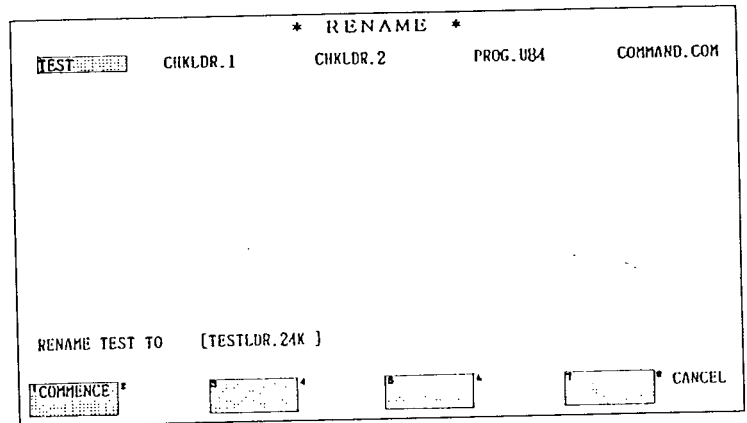

Fig. 7.132
- (1) Depressing **CANCEL** in Fig. 7.132 calls up the display shown in Fig. 7.130 again.
- (2) Instead of a system disk, a disk formatted by P 150 (containing "COMMAND.COM" file) may be used.